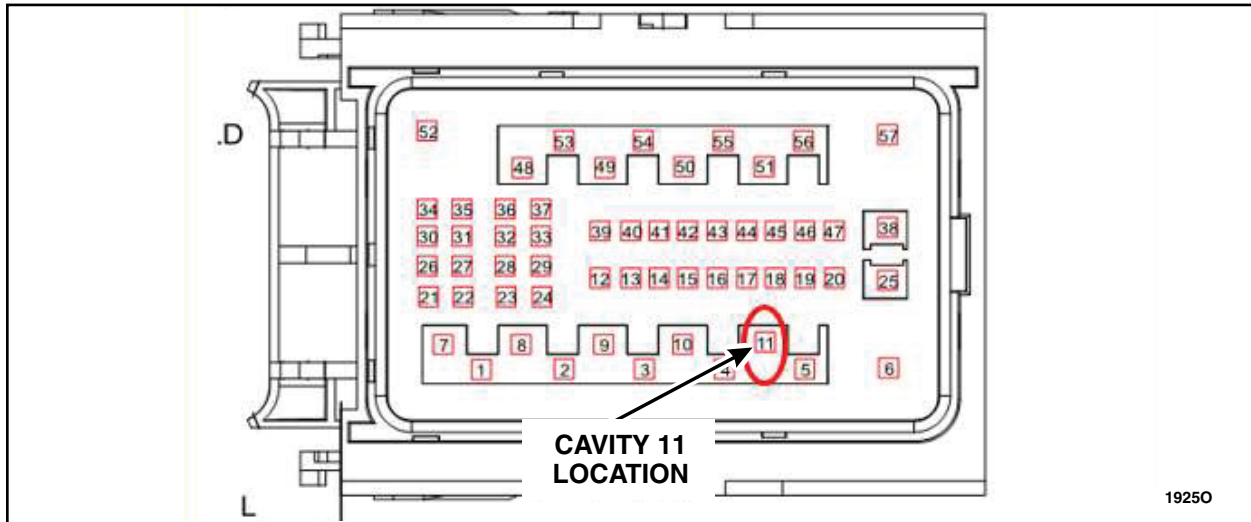

FIGURE 15
17. Locate Pin number 11 and remove the seal plug and install the new trailer tow wire harness yellow/orange wire into the pin. See Figures 15 and 16.